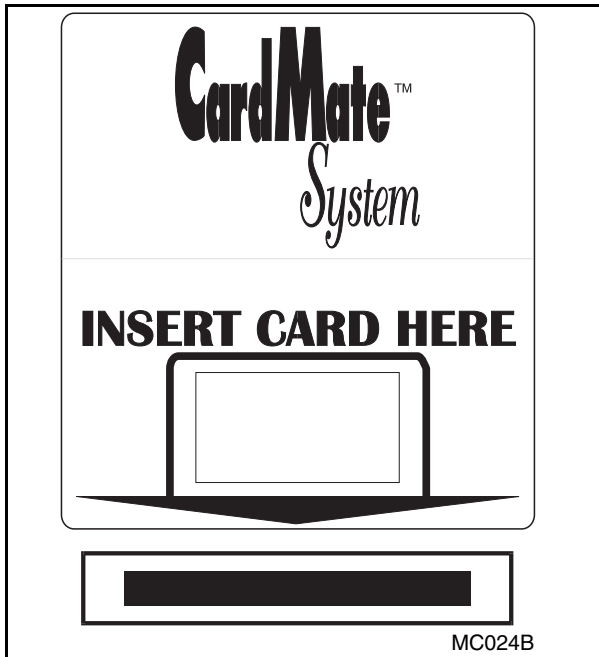

Figure 2-4
4. If the machine is equipped with the CardMate Plus™ smart card system, insert card into card reader and follow the instructions on the LED display. See Figure 2-4.